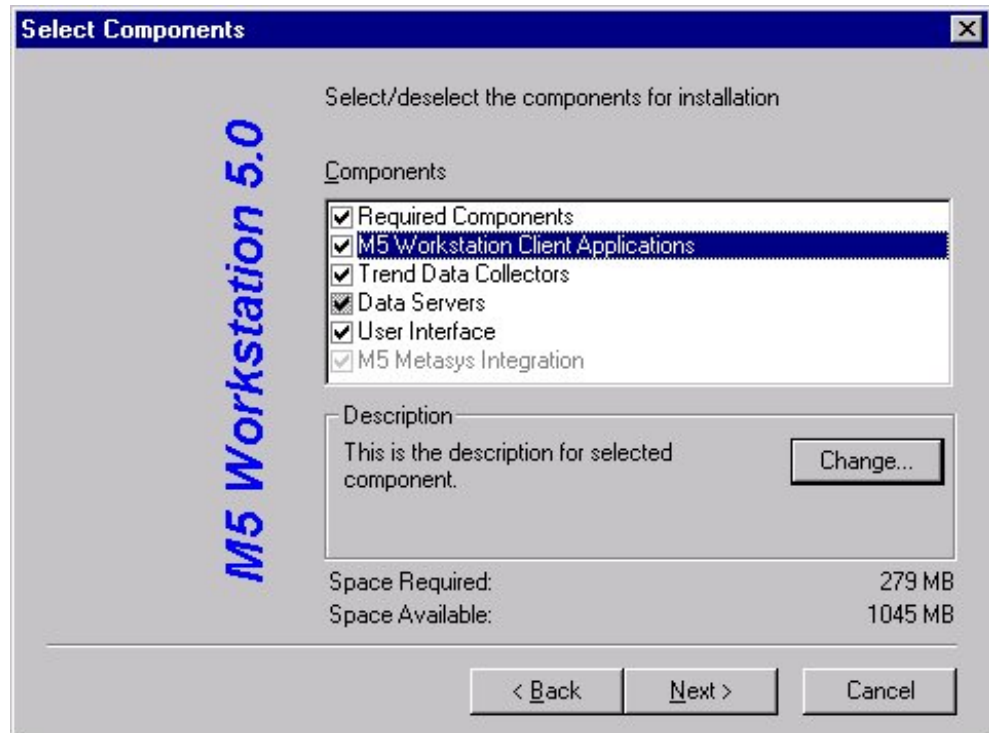

Figure 5: Select Components Dialog Box
8. Select Typical and click Next. The Select Components dialog box appears (Figure 5).
7. Select Typical and click Next. The Select Components dialog box appears (Figure 5).